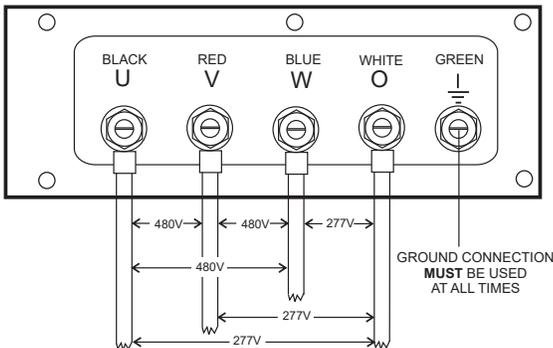

Figure 22. UVWO Terminal Lugs (3-Phase 480-Volt Connections)
2. Connect the load wires to the **UVWO terminal lugs** as shown in Figure 22.